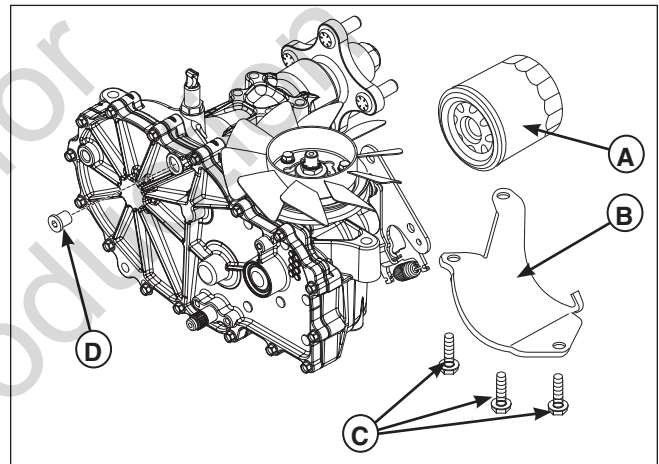

Figure 13. Transmission (Left Side Shown.)
1. Locate the transmission oil filters (A, Figure 13) underneath the rear of the machine on the transmissions.
2. Remove the three 1/4" filter guard screws (C) and the filter guard (B).